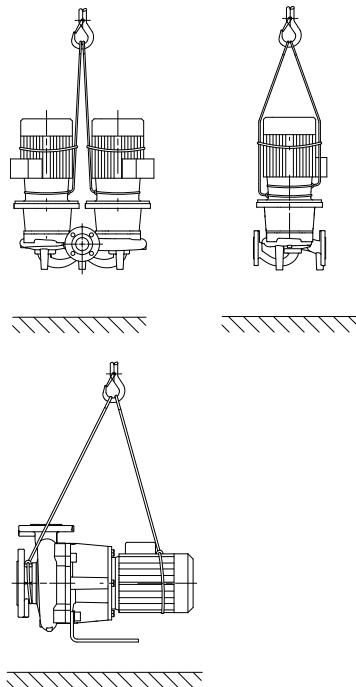

Fig. 15: Attaching the pump
- The transport eyes on the motor are only for guiding as the load is carried (Fig. 15).